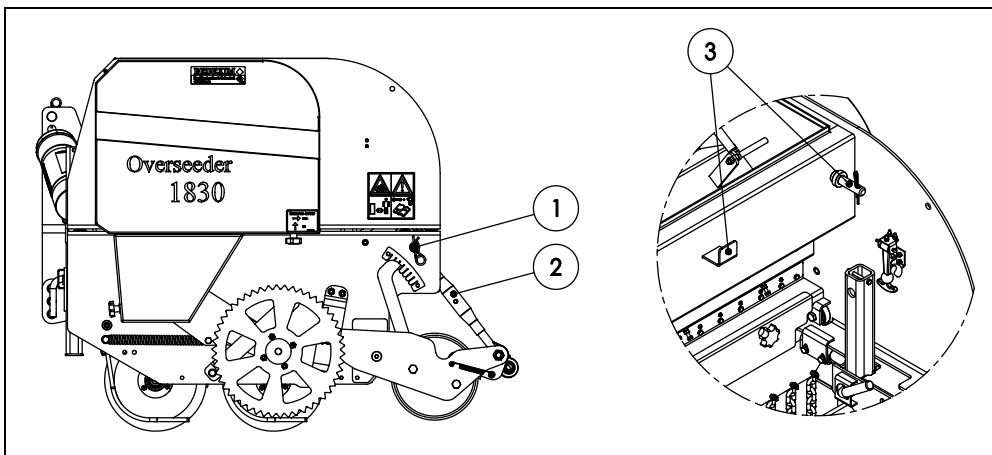

Fig. 9
The rear roller should also be set to the desired depth. The rear roller can also be mounted floating. This can be done by loosening pin and lock pin (1). The spindles (2) can be mount in the seed hopper (3). (Fig. 9)